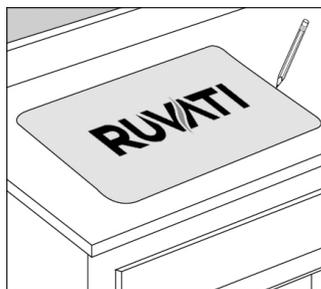

Figure 1
1. Place the sink cut-out template on the countertop, where the sink is to be installed. Trace around the outside perimeter with a pencil (Figure 1). **Note: Make sure you are using the top-mount template, and not the undermount**